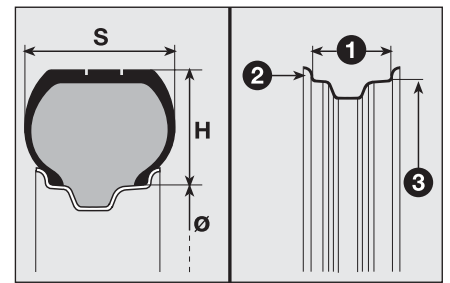

fig. 4
READING TYRE MARKINGS fig. 4
**Maximum speed rating****Q** = up to 160 km/h.**R** = up to 170 km/h.**S** = up to 180 km/h.**T** = up to 190 km/h.**?U** = up to 200 km/h.**H** = up to 210 km/h.**V** = up to 240 km/h.**Maximum speed rating for snow tyres****QM + S** = up to 160 km/h.**TM + S** = up to 190 km/h.**HM + S** = up to 210 km/h.**Load rating (capacity)****70** = 335 kg**71** = 345 kg**72** = 355 kg**73** = 365 kg**74** = 375 kg**75** = 387 kg**76** = 400 kg**77** = 412 kg**78** = 425 kg**79** = 437 kg**80** = 450 kg**81** = 462 kg**82** = 475 kg**83** = 487 kg**84** = 500 kg**85** = 515 kg**86** = 530 kg**87** = 545 kg**88** = 560 kg**89** = 580 kg**90** = 600 kg**91** = 615 kg**READING RIM MARKINGS fig. 4****Example: 5,00 B x 14 H2**5,00 = rim width in inches **1**.**B** = rim drop centre outline (side projection where the tyre bead rests) **2**.**14** = rim nominal diameter in inches (corresponds to diameter of the tyre to be mounted) **3** = Ø.**H2** = shape and number of the "humps" (circumference relief, holding into its seat the bead of the Tubeless tyre on the rim).